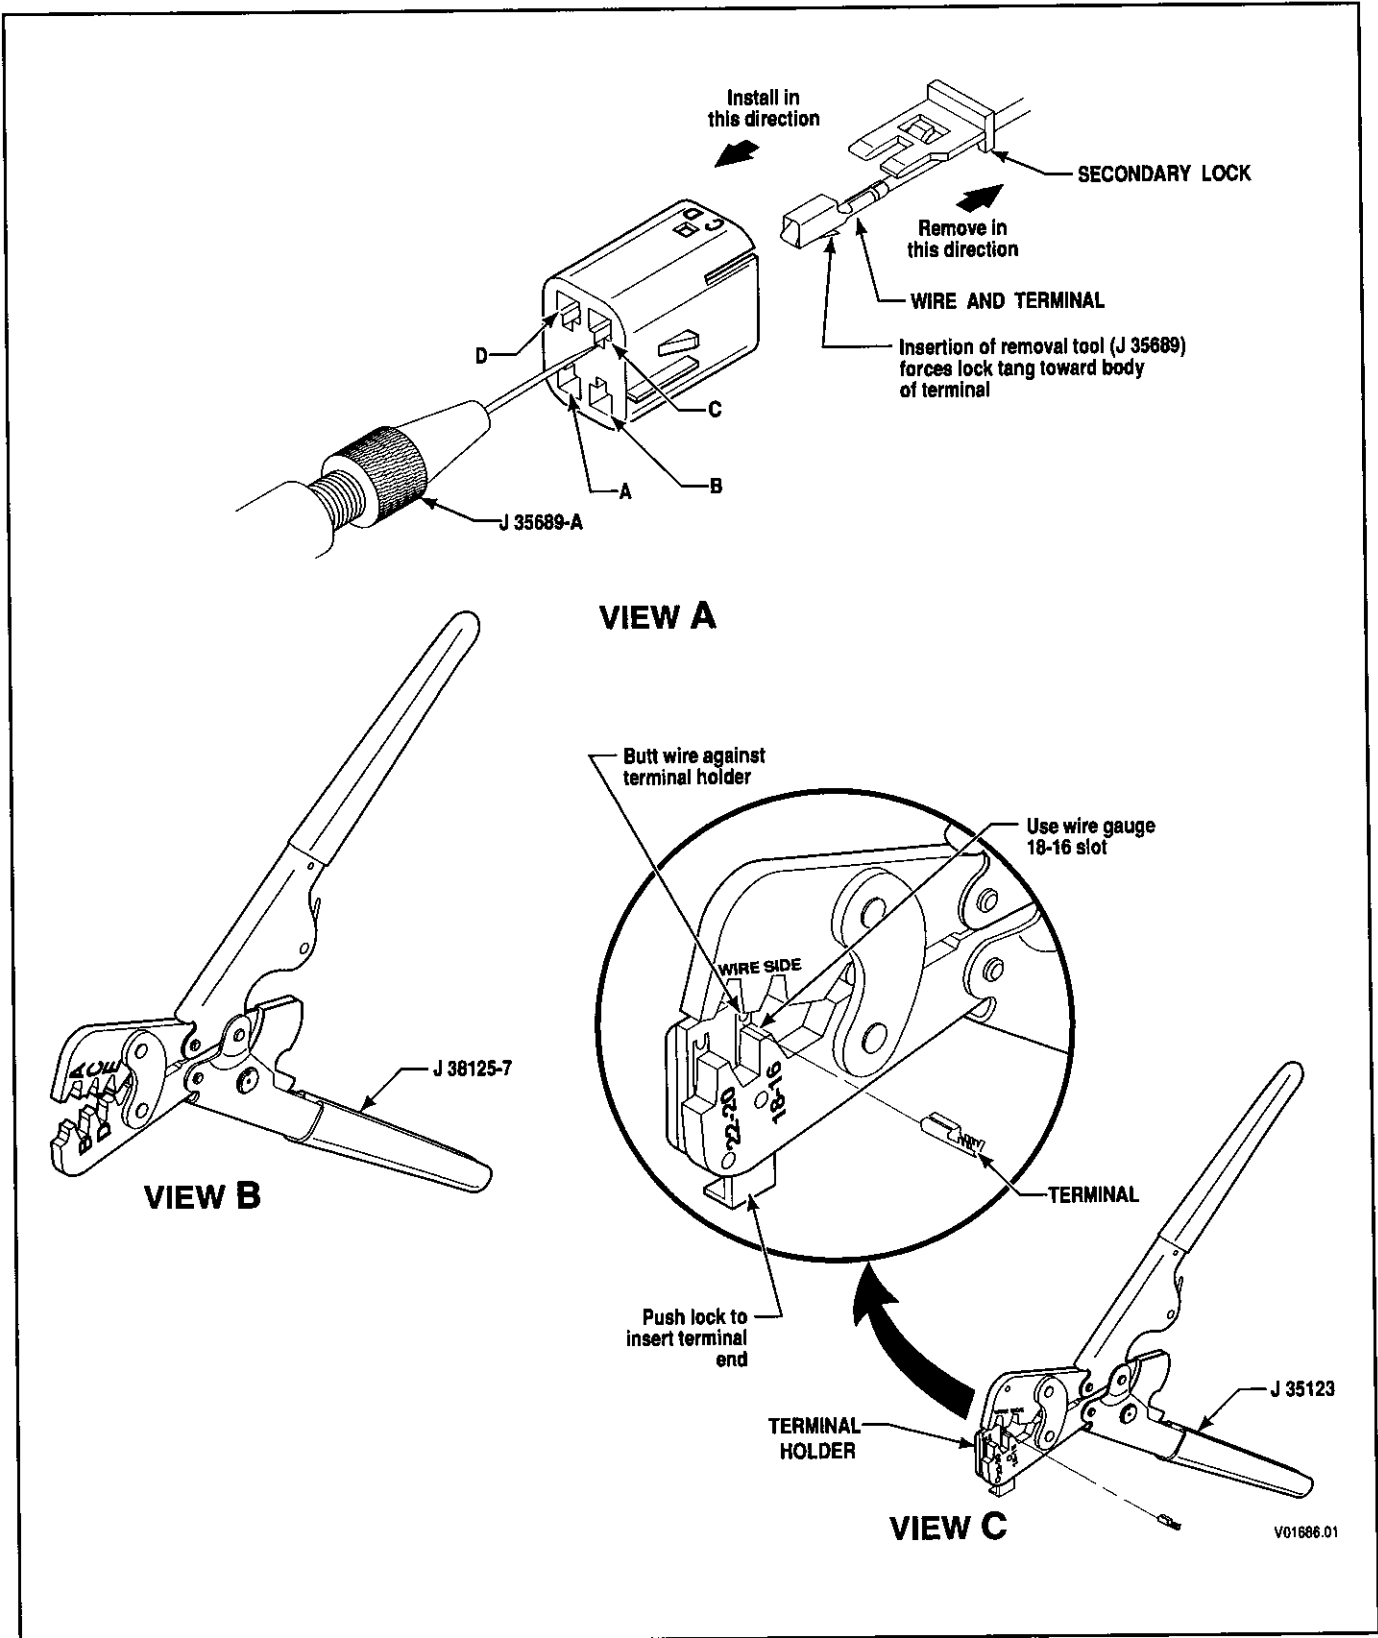

Figure E-3. Delphi-Packard Metri-Pack 150 Series Connectors — Push-to-Seat (Oil Level Sensor)
2. Insert needle end of terminal remover J 35689-A into the small notch between the connector and the terminal to be removed (Figure E-3, View A). Push the lock tang toward the terminal.
2. Place core crimp portion of terminal on bed of anvil "E" and squeeze crimper enough to keep terminal from dropping (Figure E-3, View B).
1. Insert remover tool in front side of connector to release locktab and pull terminal out rear of connector. Pull the terminal and wire out the rear of the connector to complete Steps (3) through (7).
2. Push open the terminal holder on the crimper tool J 35123 and insert a terminal into the opening marked 18-16 (Figure E-3, View C) so that the crimp ends point up. Release the terminal holder.